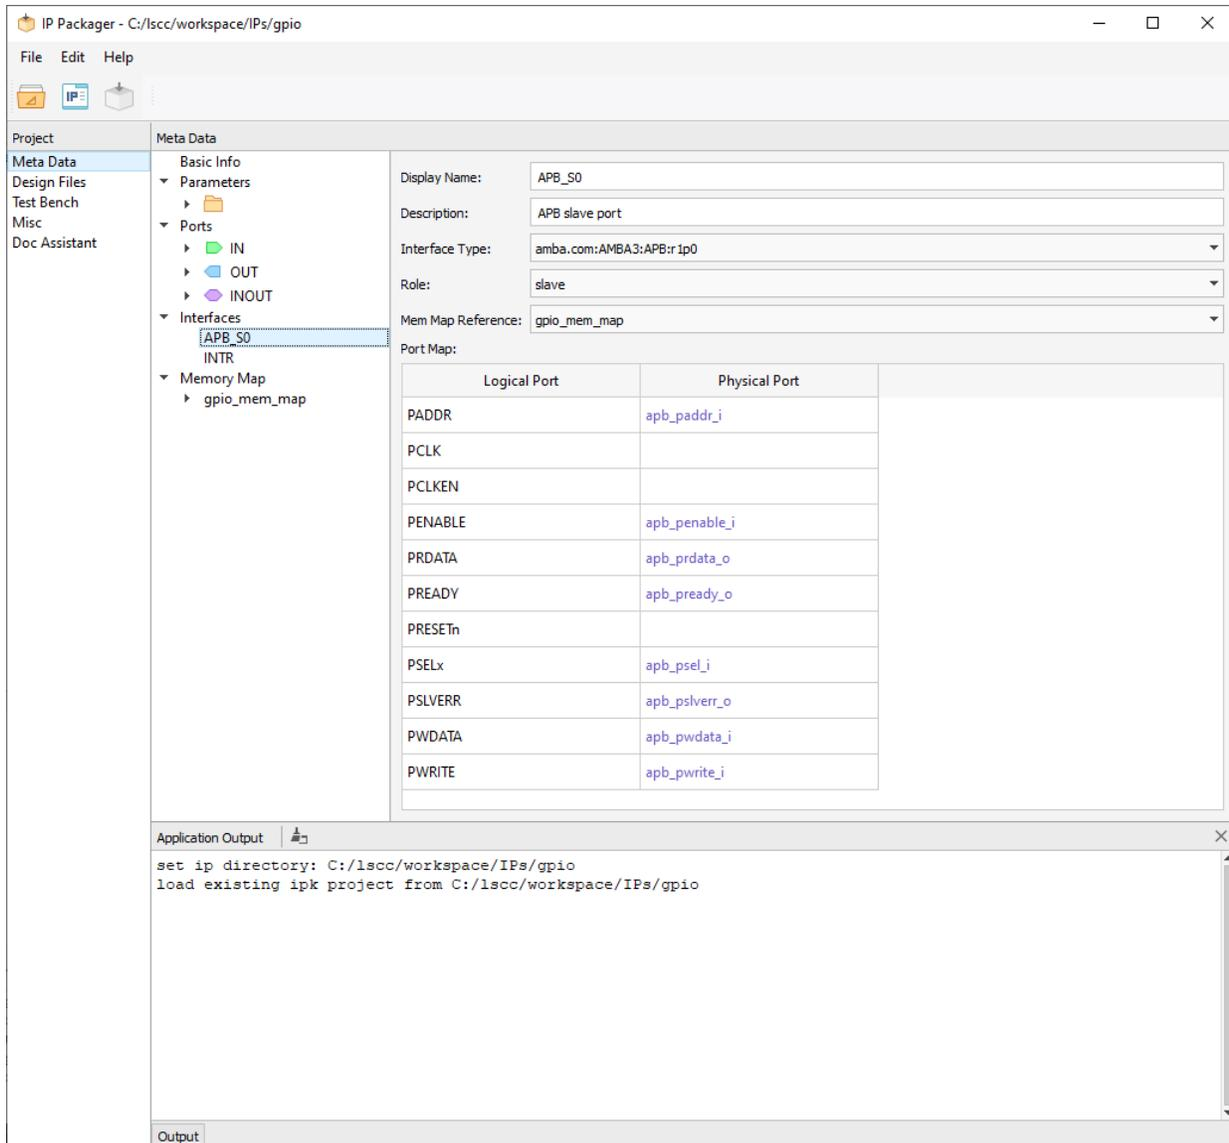

Figure 3.22. Configure an Interface
- Configure the interface as desired (Figure 3.22).